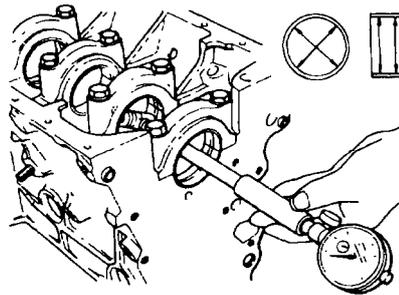

Figure 27 Measuring the Main Bearings
- q. Install the main bearing caps, together with the bearings, onto the engine block, ensuring that they are seated squarely and in their correct location. Tighten the retaining bolts to 225 to 245 N.m (166 to 181 lbf.ft). Lubricate the bearing shells with clean engine oil and with an internal micrometer, measure the diameter of the bearings (Figure 27). The nominal diameter is 80.0 mm (3.15 in). Subtract the bearing journal diameter from the diameter of the corresponding bearing and check that the clearance falls within the standard limits of 0.039 to 0.11 mm (0.0015 to 0.0043 in). If the clearance exceeds the limit, replace the crankshaft. Remove the bolts, bearing caps and bearings and set them aside.